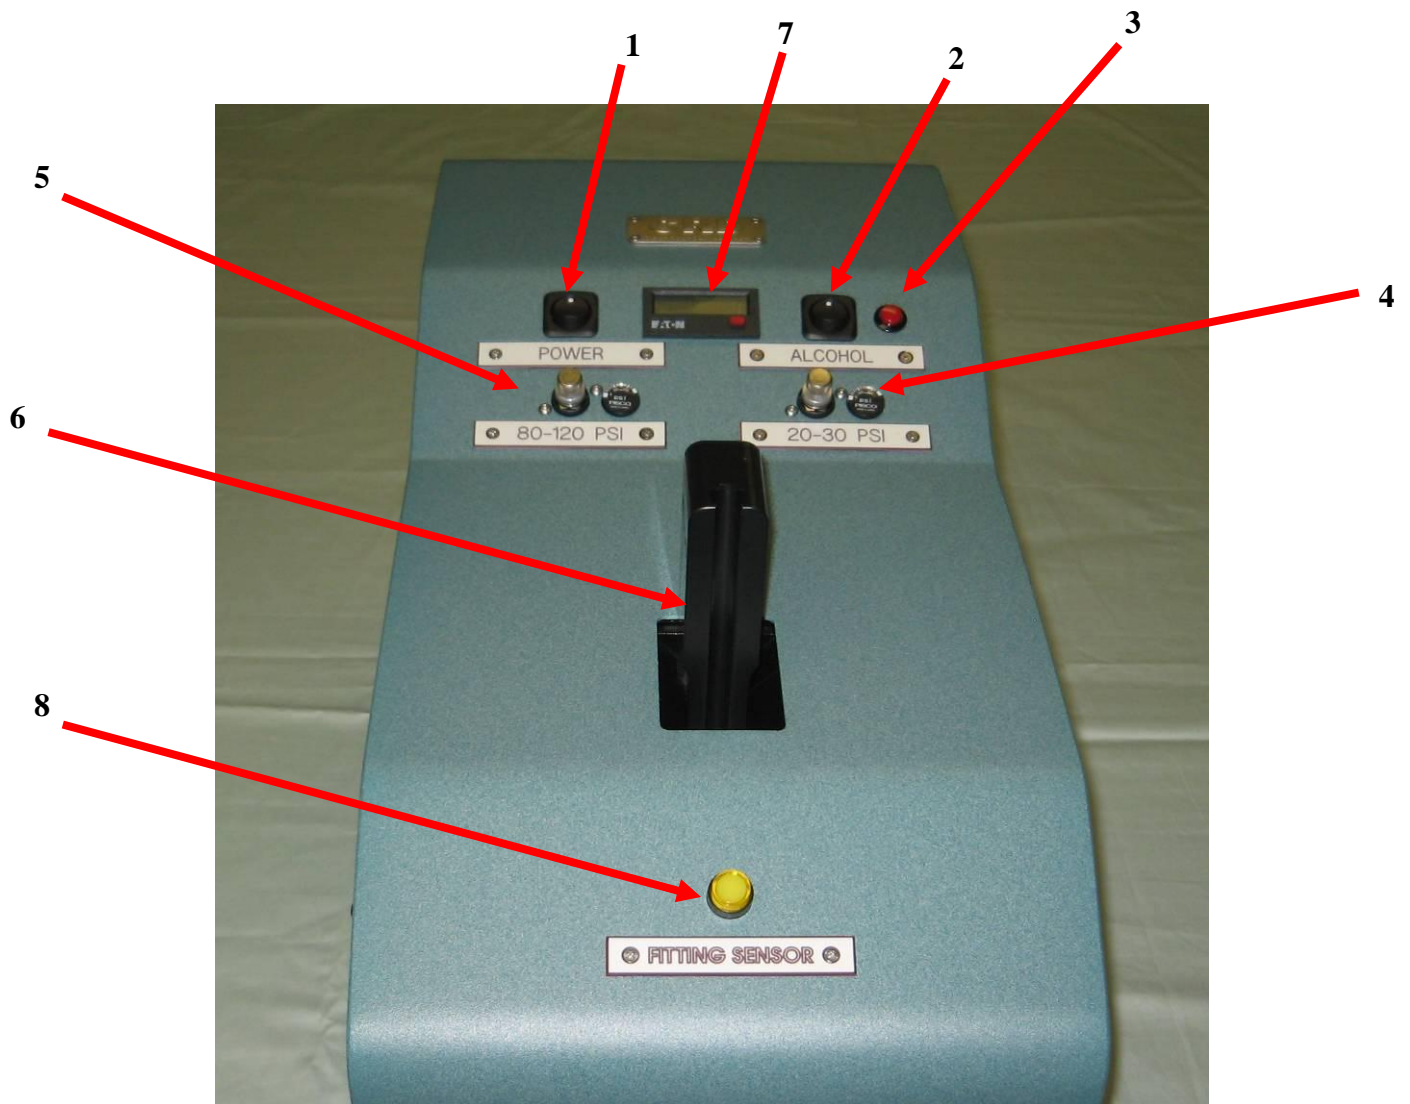

Figure 2 - Front Panel Layout
- Adjust low pressure regulator between 20-30 psi. (Shown in Figure 2)
- Adjust high pressure regulator between 80-120 psi. (Shown in Figure 2)